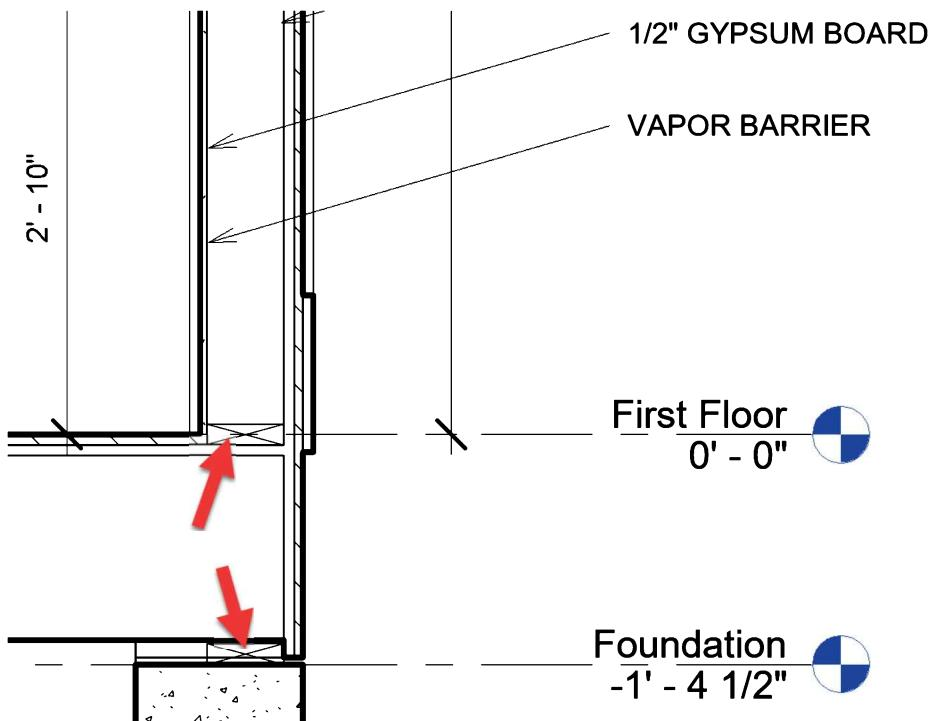

FIGURE 11-4.8 Cross Section 1 – Callout 1 view; 2 x 6 sill plates added
18. Add the sill plates as shown in Figure 11-4.8.